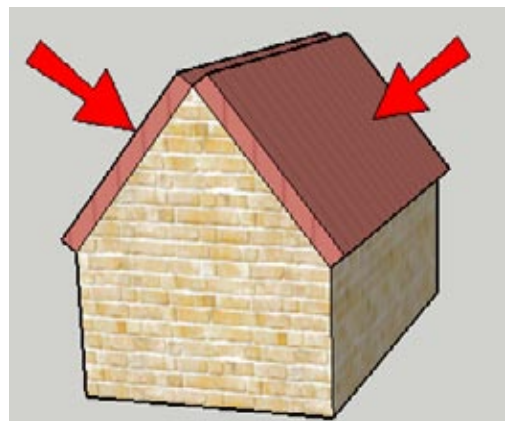

Figure 5-2
2. To give the roof some thickness, use Push/Pull with Ctrl/Option to pull out one roof face. Press Ctrl/Option again and double-click the other roof face to pull it out the same amount (Figure 5-2).